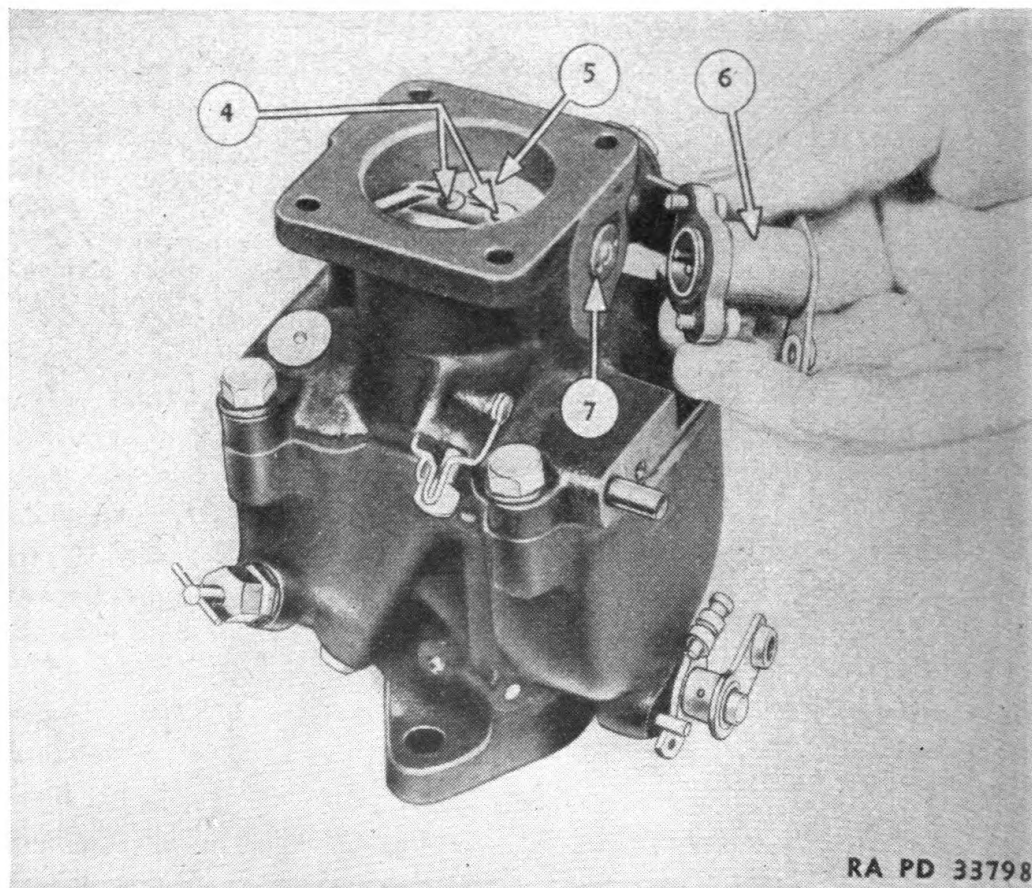

FIGURE 82.—Air shutter or choke control disassembly.
78. Air shutter or choke control.—Remove air shutter lever assembly (6) (fig. 82). Take out screws (4) after melting the solder away from screws and shutter plate (5). Slip out the shutter and then the air shutter shaft assembly (7). Replace shaft bushings in the housing if worn.